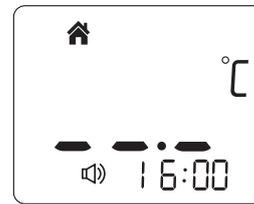

Figure 4
1. Press the **ON** *BUTTON* to turn on the thermometer, you can take the object temperature after hearing voice.(see figure 4)